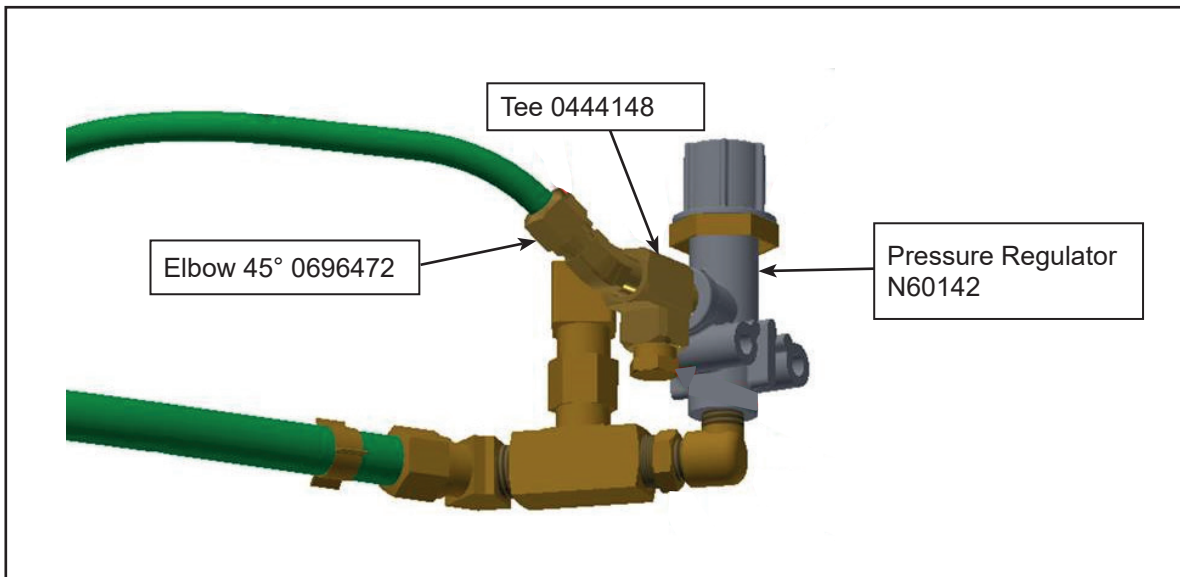

Figure 7 - Installation of New Pressure Regulator
- 1.12. Install new valve pressure regulator P/N N60142 on to elbow P/N 0444040, then install tee P/N 0444148 and elbow 45° P/N 0696472 (see figure 7).